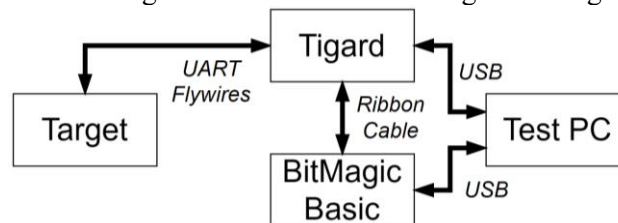

Figure 26: Block diagram for UART Tx using Tigard with BitMagic Basic
3. Power off your target, then connect the Tigard UART cable to the target. See Figure 26 for a block diagram.